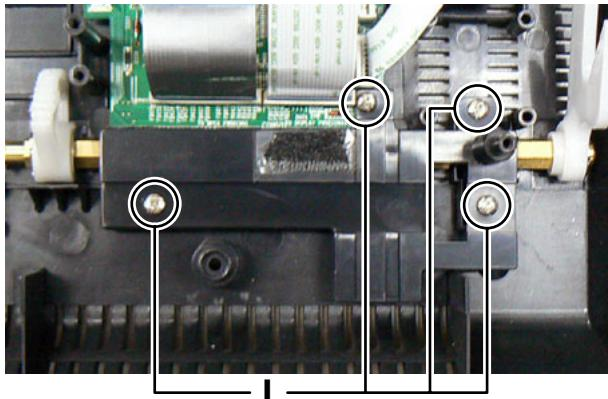

Fig.12
(5) Remove the four screws **L** attaching the bracket. (See Fig.12)